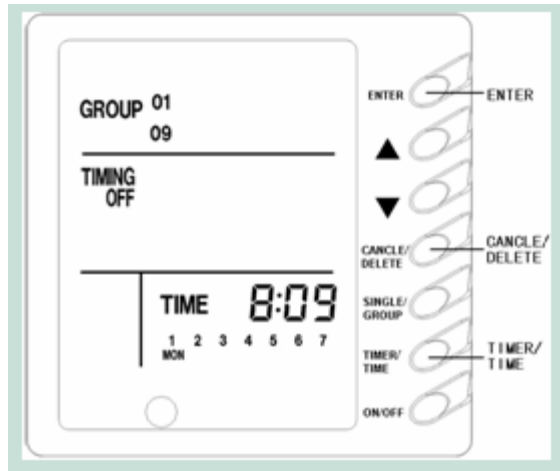

Fig.10.
2) When canceling timer setting to the selected unit, long-press “**cancel/delete**” after process 1), “**TIMING**” and “**OFF**” blinks, then timer is in invalidate state. At this time long-press “**cancel/delete**” can switch timer between validate and invalidate state. Only under timer validate state can set timer. Short-press “**cancel/delete**” can back to default page. Press “**enter**” when timer is invalidated can cancel all timers for the selected unit in a week (fig.10).